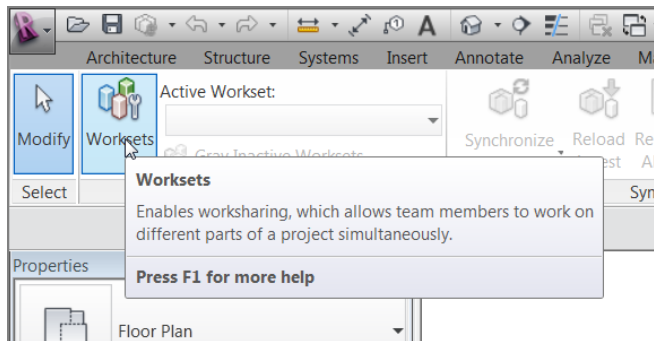

FIGURE 22.2: Clicking the Worksets button
2. On the Collaborate tab, click the Worksets button on the Worksets panel, as shown in Figure 22.2. Note that the Worksharing button is also on the status bar at the bottom of the Revit window.